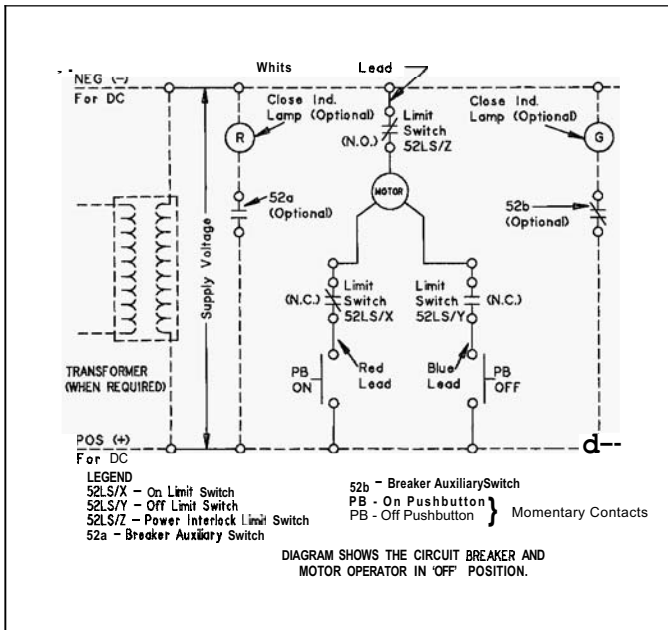

Fig. 2-2. Motor Operator Wiring Diagram
- 2-8. To connect the power and control wiring, refer to Fig. 2-2, page 3.
To check the electrical operation use the remote momentary “ON” and “OFF” control devices, and perform the following steps: (refer to Fig. 2-2)